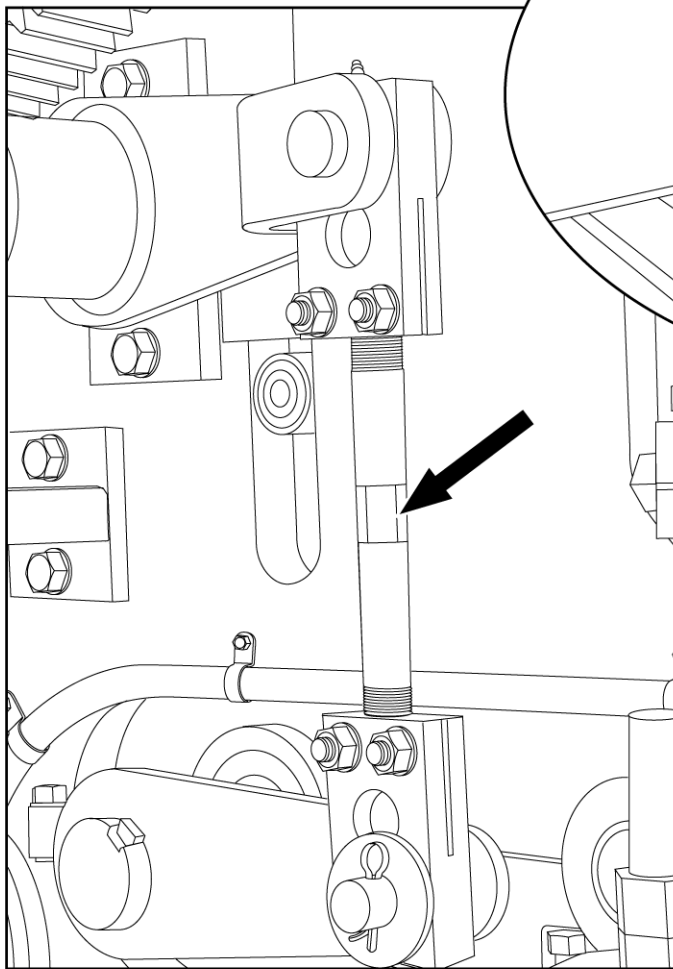
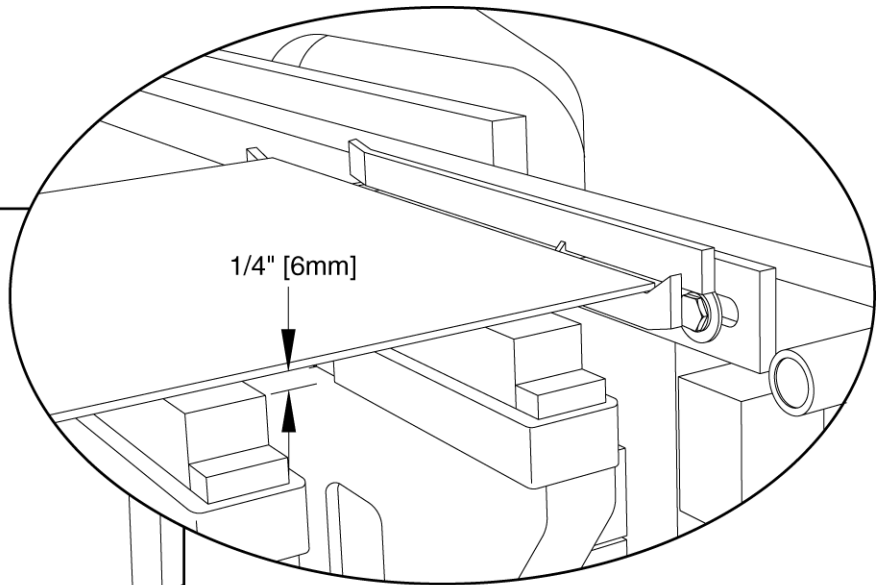

Figure 6.20 PALLET RAISING LINK
Figure 6.21 PALLET CLEARANCE
6.2.12 Place pallet on fingers and adjust block raising link on left side of machine (see figure 6.20) to obtain 31 1/2" [800mm] from top of base plate to bottom of pallet. Make sure there is 1/4" [6mm] of clearance between bottom of pallet and pallet receiver rubbers (see figure 6.21).